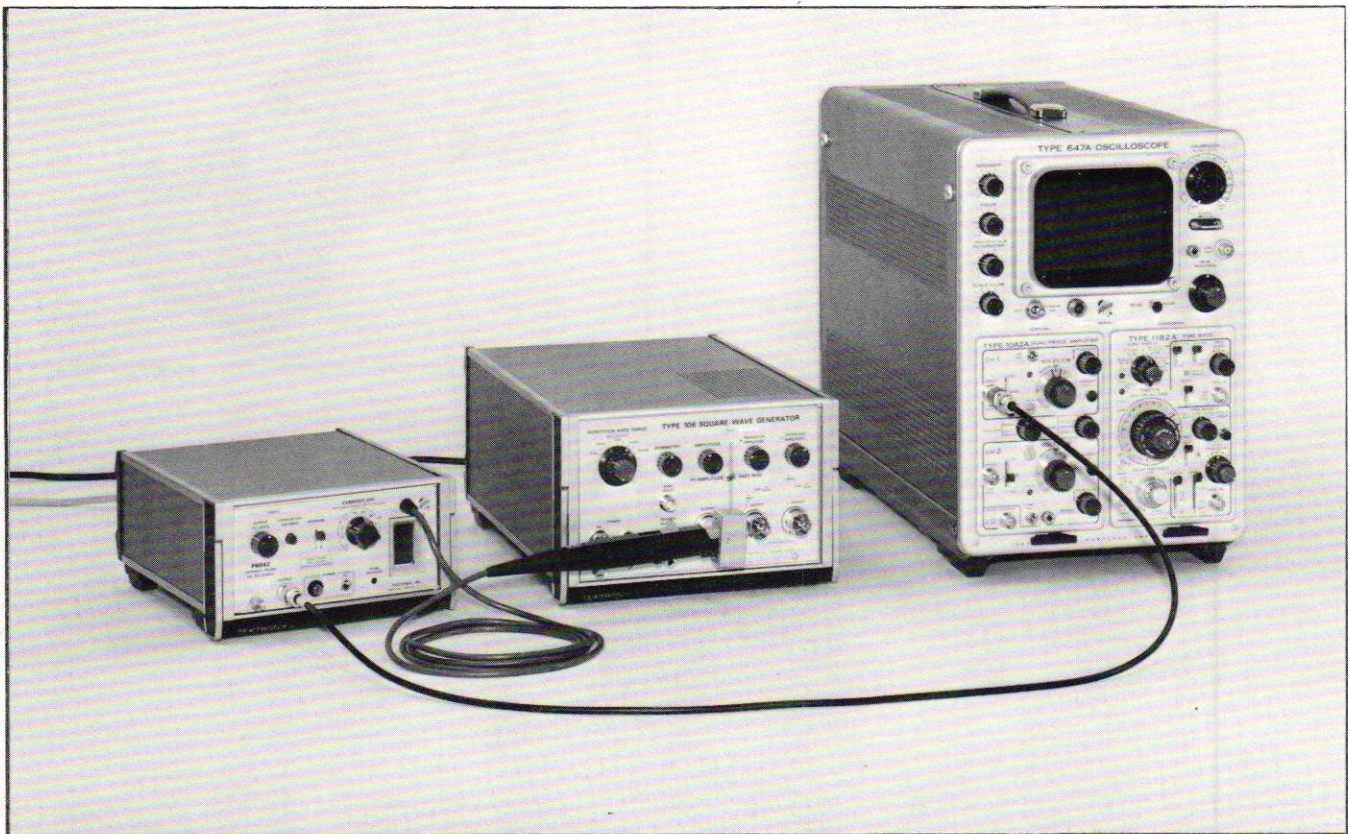

Fig. 2-3. P6042 Current Probe connected to Type 106 Square-Wave Generator output.
11. Remove the probe from the front-panel receptacle, move the slider back, and place the probe around the conductor under test. Push the slider forward into the locked position. Figure 2-3 shows a test application, using for the signal source the Fast Rise output of a Tektronix Type 106 Square-Wave Generator and a 50-ohm terminating current loop (067-0559-00).